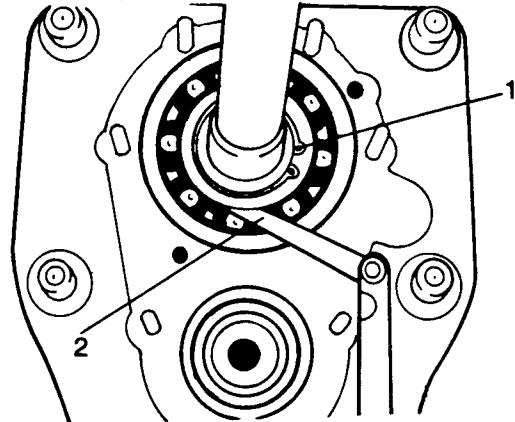

Fig H1.49
- (3) Refer to Fig H1.49. Fit the primary bearing adjusting washers and the spring ring (1).
- (4) Check the end play of the primary shaft bearing (2) with feeler gauges which should be between 0 and 0,5 mm. If not, select the correct washer.
- (5) Fit the clutch withdrawal mechanism (see Sub-sub-section H1.3, Chapter 5).
- (6) Refit the gearbox to the vehicle (see Sub-sub-section H1.3, Chapter 1) and fill it and the transfer box with the correct grade of oil.